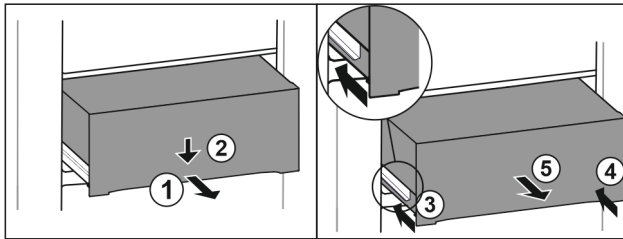

Fig. 157
- ▶ Pull out drawer half-way. Fig. 157 (1)
- ▶ Push the drawer down at the front. Fig. 157 (2)
- ▶ Push the left rail in by about 2 cm. Fig. 157 (3)
- ▶ Push the right rail in by about 2 cm. Fig. 157 (4)
- ▶ Remove drawer to the front. Fig. 157 (5)